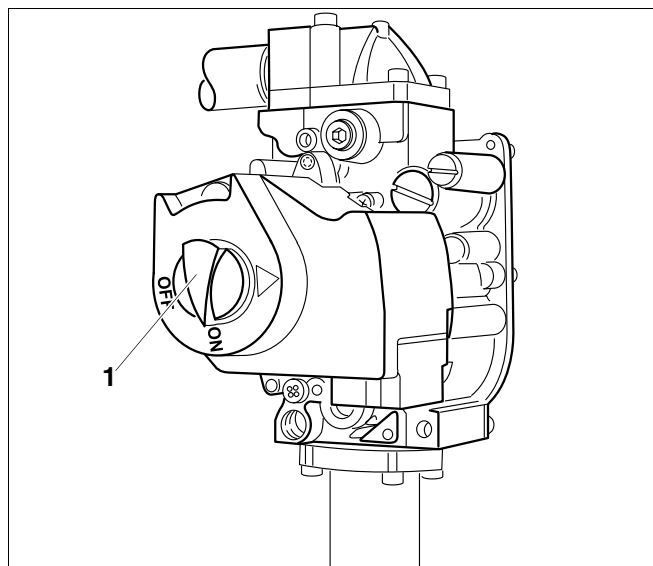

Fig. 33 G124X II gas valve
24. If the gas fitting operates correctly, proceed to step 25. If the gas fitting does not operate correctly, switch ON/OFF switch (→ Fig. 33) on the gas fitting clockwise to the OFF position immediately. Close main gas shut-off. Disconnect heating system from the power supply and inform the customer service technician or LP gas company.